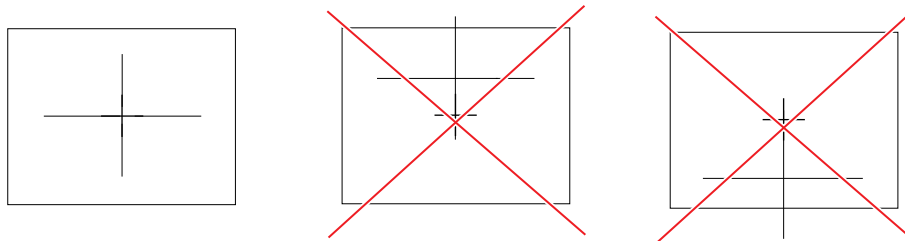

Fig. 4-59 Paper marks
2. Move the OTC backward/forward and the center of the collimator light field must stay on the same mark on the paper, see Fig. 4-59 *Paper marks* below.